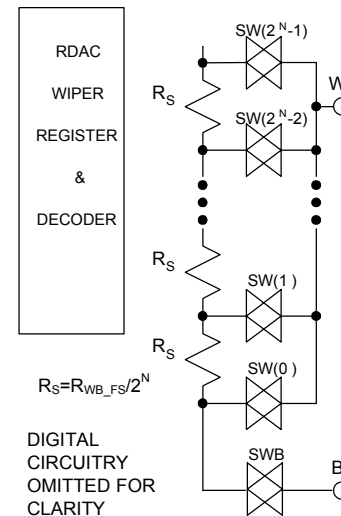

Figure 18.. Equivalent RDAC structure
Figure 18 shows an equivalent structure of the connections between the two terminals that make up one channel of an RDAC. The SWB switch will always be ON, while one of the switches SW(0) to SW(2N-1) will be ON at any given time depending on the resistance position decoded from the databits in the RDAC register.
The wiper first connection starts at the B terminal for data  $000_H$ .  $R_{WB}(0)$  is  $50\Omega$  because of the wiper resistance and it is independent to the full-scale resistance. The second connection is the first tap point where  $R_{WB}(1)$  becomes  $48.8\Omega + 50 = 98.8\Omega$  for data  $001_H$ . The third connection is the next tap point representing  $R_{WB}(2) = 97.6 + 50 = 147.6\Omega$  for data  $002_H$  and so on. Each LSB data value increase moves the wiper up the resistor ladder until the last tap point is reached at  $R_{WB}(512) = 25001\Omega$ . See Figure 18 for a simplified diagram of the equivalent RDAC circuit.